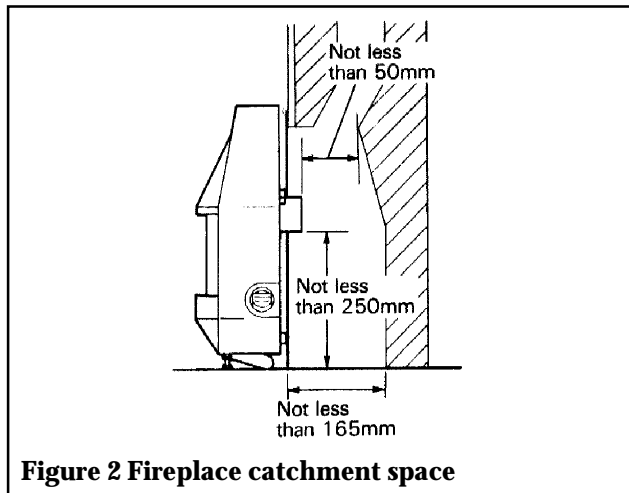

Figure 2 Fireplace catchment space
See figure 2.
3.3.11 If the fire is fitted to a recessed fireplace, an extension flue spigot up to a maximum total length of 125mm may be used. The extension must be a tight fit over the flue spigot and be secured by two self tapping screws. Note the minimum clearance required as shown in figure 2.